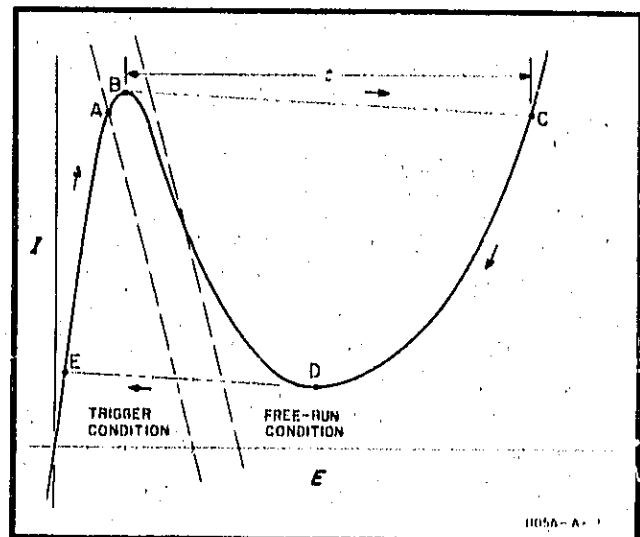

Figure 4. Typical Tunnel Diode Characteristic Curve
22. The Tunnel Diode Mounts consist of impedance matching and isolating components which enable optimum usage of the tunnel diode fast risetime characteristics. See Figure 4 for a typical tunnel-diode characteristic curve. A negative resistance region, in which current decreases when voltage increases, exists between points B and D on the curve. In this region, the tunnel diode characteristic curve is very unstable and rapid voltage changes occur.